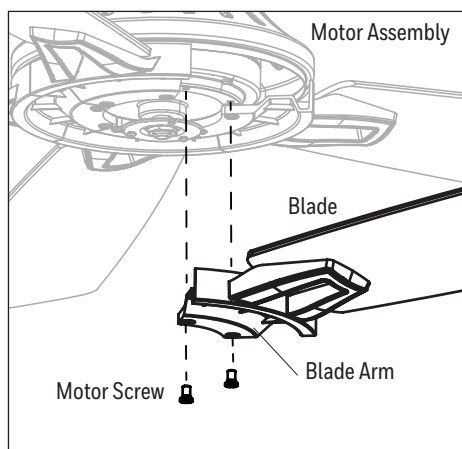

Figure 4.4
- Install the blade arm to the underside of the motor assembly with previously removed motor screws. Tighten each blade arm completely before moving to the next (Figure 4.4).